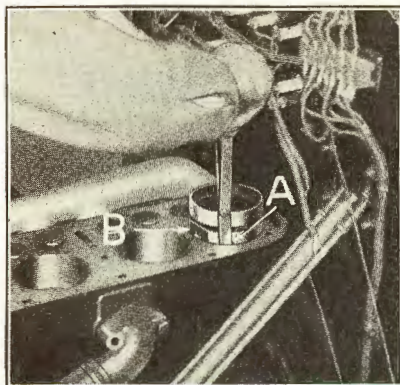

Fig. 240
- 403** Pistons can be checked for wear by inserting them into cylinders and measuring the clearance between piston and cylinder wall (See "A" Fig. 240). Thickness gauges (feelers, See Fig. 166) can be used for this purpose. If there is more than .006" clearance, the old pistons should be discarded after removing the piston pin and connecting rod as described in Par. 413 and new oversize pistons installed.
- 404** New pistons are fitted with .003" to .004" clearance between piston and cylinder wall. When checking pistons, the feelers should be tried at several points between the piston and cylinder bore, especially around sides of the two oil pockets on the pistons (See "B" Fig. 240). Pistons can be checked for being out of round by inserting the feeler between piston and cylinder and holding the feeler stationary while the piston is turned and checked a quarter of a turn at a time. If the piston shows out of round, remove piston and lightly tap it with a rawhide mallet on the greatest diameter of the skirt, to true it up.